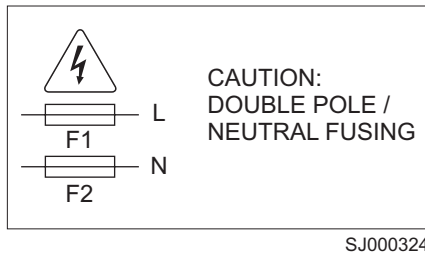

Figure 4. Fusing caution label
4. Verify that the fusing caution label shown in Figure 4 is installed on the switch's power supply.